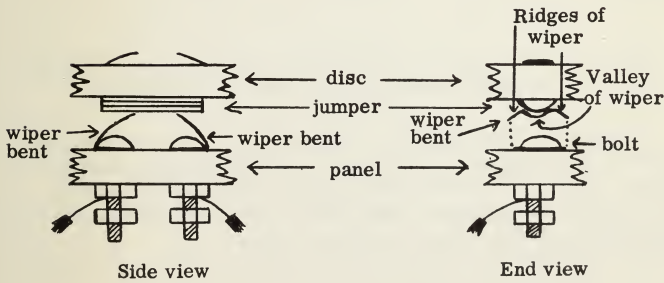

Figure 8 — Assembly of wipers
The way in which the wiper is assembled is shown in Figure 8, and is as follows: (1) thread the bolt through the wiper, with its ridges down; (2) fasten the bolt not too tightly to the panel; (3) align the wiper with the spoke (or radius) of the switch; (4) now fasten the bolt tightly; (5) bend the wiper gently upwards and over the bolt, with the ridges up, in such a way that the wiper will slide neatly on the jumper, resting in its valley between the ridges; (6) assemble the multiple switch with a hard washer between the disc and the panel; (7) adjust the amount of bending of the wipers so that they push up and down nicely against the jumpers as the switch turns.
the body of the jumper must be in line with a spoke, and the valleys between the ridges on the wipers must be in line with the spoke; then the jumpers will have a tendency to catch in the valleys, as they should, to hold the switch in position (see Figure 8, end view).